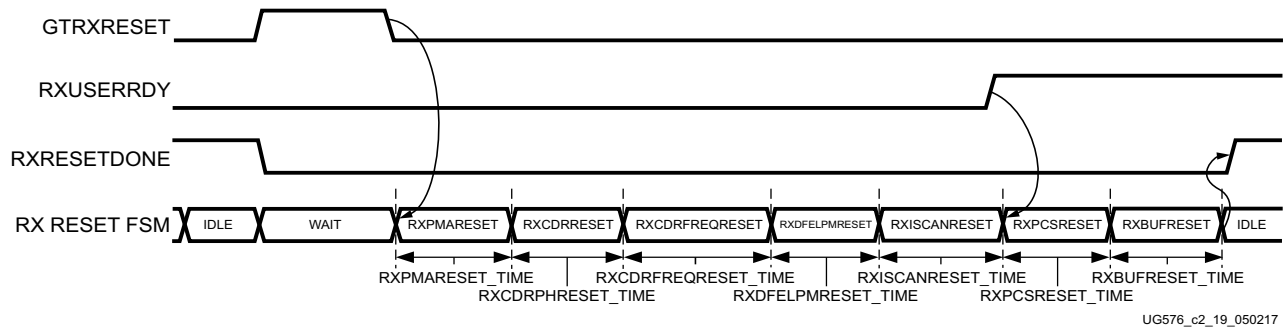

Figure 2-26: GTH Receiver Reset after GTRXRESET Pulse
2. All reset inputs shown on the left of Figure 2-26 including RXPMARESET, RXCDRRESET, RXCDRFREQRESET, RXDFELPMRESET, EYESCANRESET, RXPCSRESET, and RXBUFRESET must be constantly driven Low during the entire reset process before RXRESETDONE is detected High.